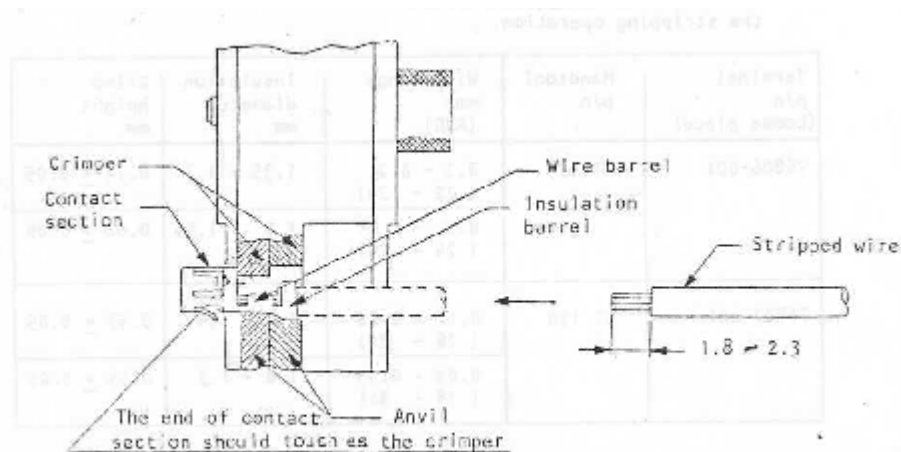

Figure 3
- 3.3 Hold the contact section of the terminal, then insert a terminal as shown in figure 3.
- 3.4 Close the handles gradually until the terminal is held between the crimper and anvil. During this operation the terminal should be relocated so that the end of the contact section touches the crimper (see figure 3)